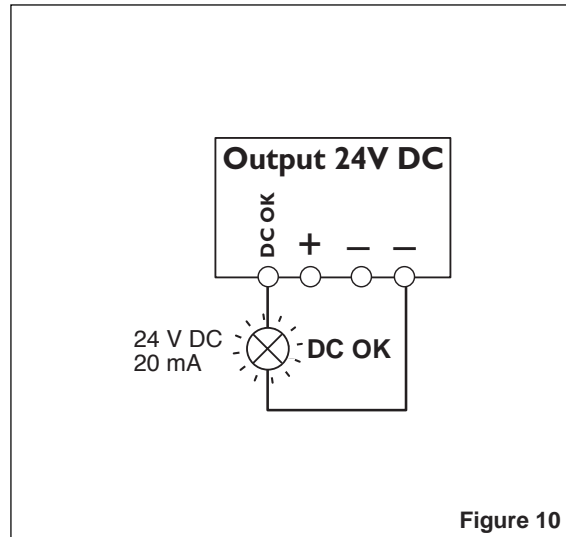

Figure 10
#### Active Signal Output (③, Figure 10)